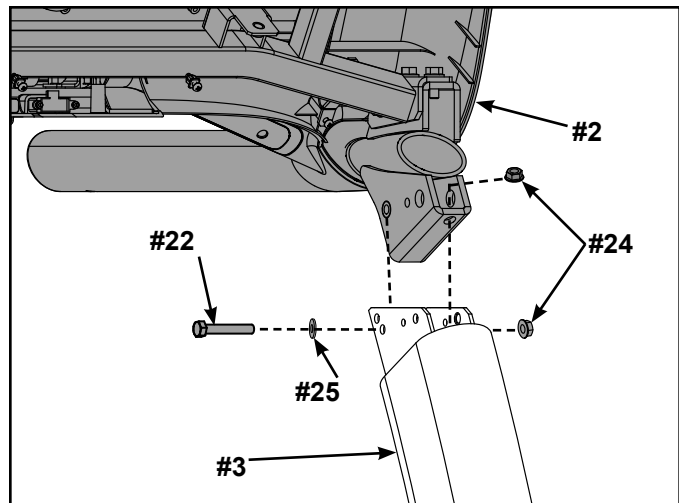

Figure 4
- A. Locate the console assembly (#2), bolt 5/16-18 x 2.25" HXHD (#22), washer (#25) and two nuts (#24). See Figure 4.
- B. Place the console assembly (#2) in position on the left upright (#3). See Figure 4.
- C. Using a 1/2" box end wrench, partially tighten the bolt 5/16-18 x 2.25", HXHD (#22), washer (#25) and two nuts (#24). See Figure 4.
- E. Using a 1/2" box end wrench, fully tighten the two bolts, 5/16-18 x 2.25", HXHD (#22) and four nuts (#24) securing the console assembly to the uprights. See Figure 4.